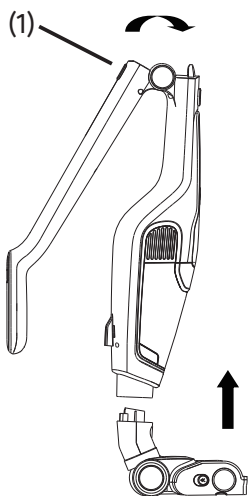
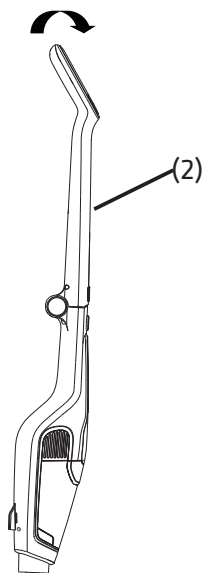

Fig. 3-1a
Fig. 3-1b
When the release button (1) locks the body, rotate the handle (2) and insert it into the body. If you need to fold the handle, rotate the handle release button (1). (See Fig.3-1a/Fig. 3-1b)